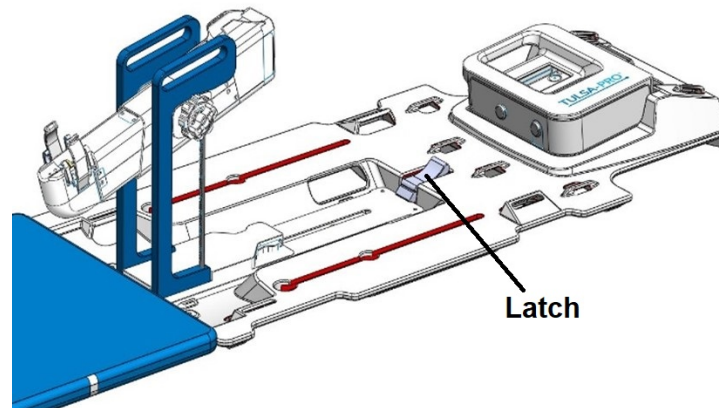

Figure 23: Secure the Positioning System using the latch on the base plate
2. **MRI Technologist:** Ensure that the slot for the PSIB is clear. Place the PS and PSIB in their respective slots on the base plate. Secure the Positioning System (PS) to its slot on the base plate between the patient's legs by snapping it into the latch (*Figure 23*).